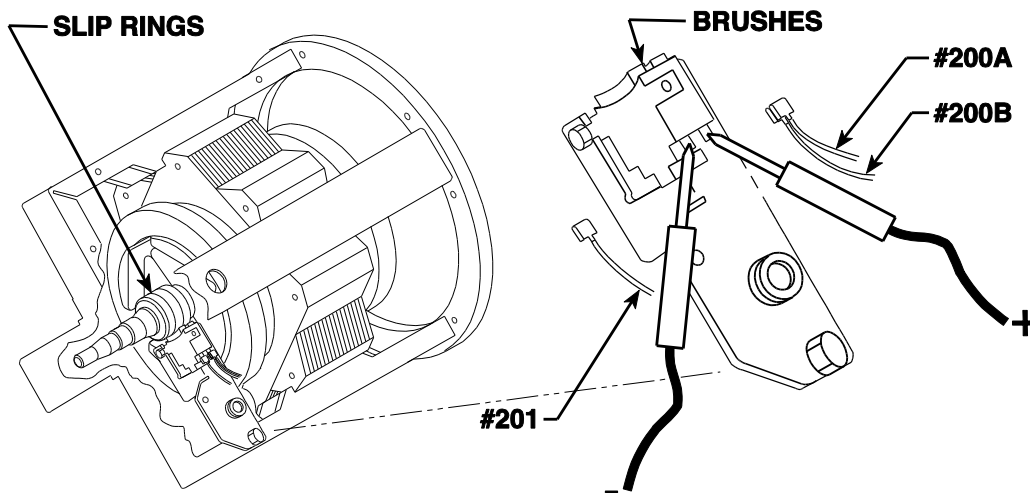

Figure F.9
3. Remove the brush holder bracket assembly from the stator tie bar assembly. **SEE FIGURE F.9.** This will electrically isolate the rotor windings.
4. Using the ohmmeter, check the rotor winding resistance across the slip rings. **SEE FIGURE F.9.** Normal resistance is approximately 25 ohm, at 77° F. (25° C.).